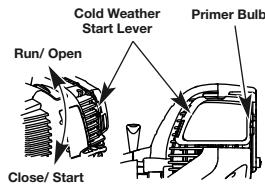

Fig. 9
- 3. Fully press and release the primer bulb 10 times, slowly. Some amount of fuel should be visible in the primer bulb and fuel lines (Fig. 9). If you can't see fuel in the bulb, press and release the bulb as many times as it takes before you can see fuel in it.
**IF COLD...** For cold weather conditions (below 40°F), flip the Cold Weather Start Lever (Fig. 9) down to the start/closed position and continue to step 3. DO NOT flip this lever down if the temperature is above 40°F.